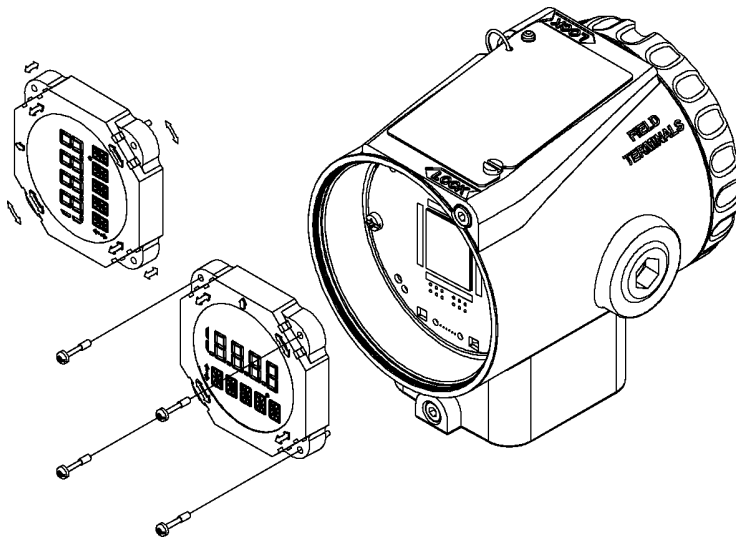

Figure 6.4 - Four Possible Positions of the Display
Plug sensor connector and power supply connector to main board. If there is a display, attach it to the main board by means of 4 screws (3). The display can be installed in any of the 4 possible positions (See Figure 6.4). The '▲' mark indicates up position.
Pass the screws (5) through the main board holes (6) and the spacers (7) as shown on Figure 6.4 and tighten them to the body.